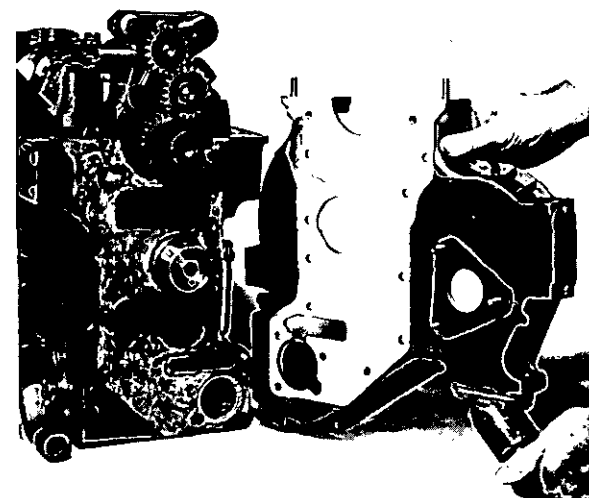

Fig. G.10
11. Remove setscrews, shakeproof and shim washers securing timing case to block and with a light tap remove timing case from cylinder block (Fig. G.10).